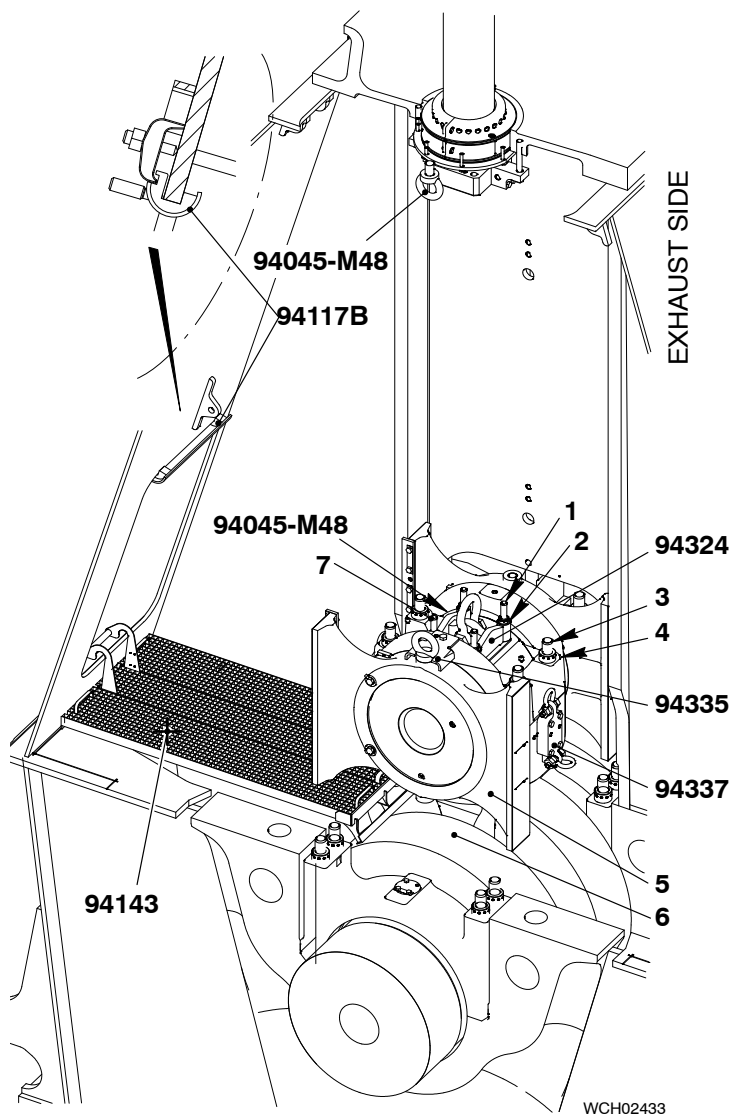
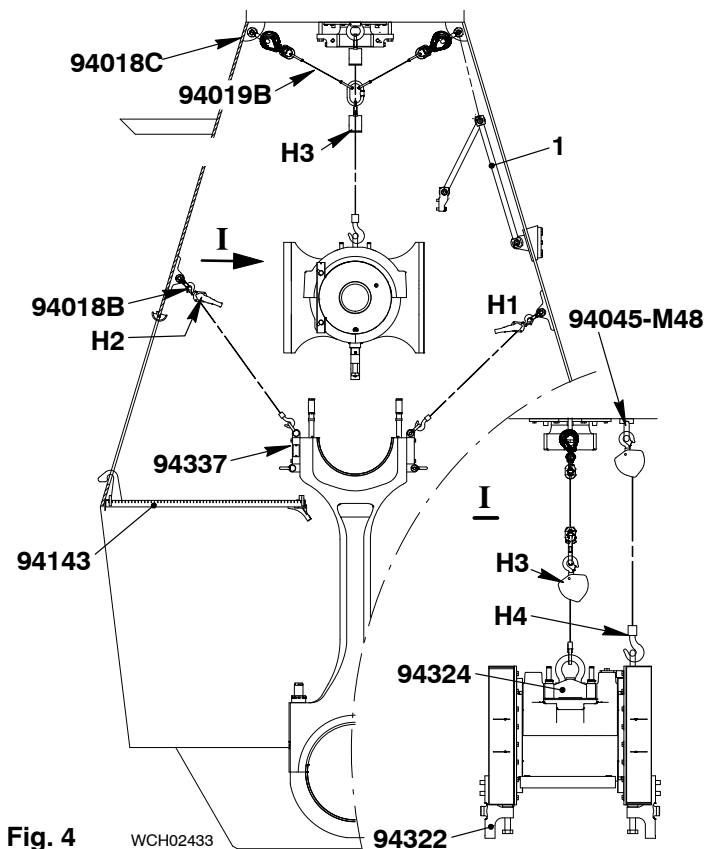

Fig. 3
Fig. 4 WCH02433
- 1) Install the platform (94143, Fig. 3).
- 5) Use the pre-tensioning jack (94315) to apply tension to the elastic stud (3), refer to 9403-4.
- 6) Remove the four round nuts (4).
- 7) Attach the lifting tool (94324) to the elastic studs (3) with the round nuts (4)
- 8) Tighten the round nuts (4) with the round bar (94005).
- 9) Install the stop plate (94335) to the bearing cover (7).
- 12) Disconnect the toggle lever (1, Fig. 4) from the connecting rod.
- 1) Attach the shackles (94018B, Fig. 4) to each side of the column.
- 16) Remove the platform (94143, Fig. 4).